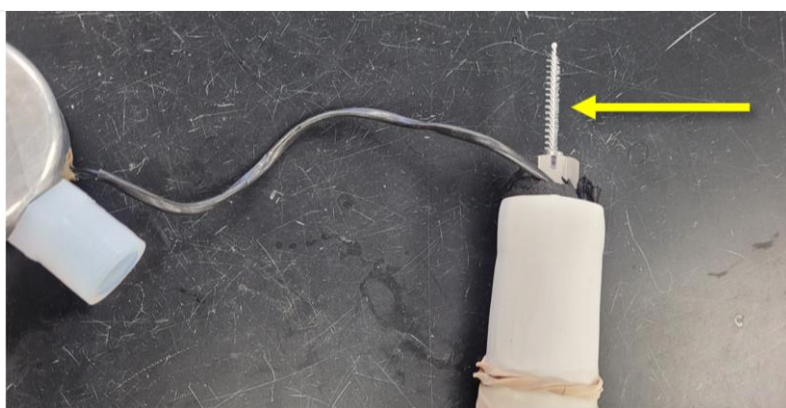

Figure 59. Long Nylon Tube Brush inserted through Inlet Tubing.
STEP 13 | Use a long, narrow bottle brush (1/6" diameter, 32" long) that has been soaked in Alconox (2 oz/gal water) and run the tube brush back and forth all the way through the inlet tube at least 5 times (**Figure 59**).